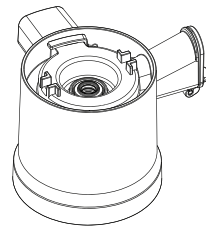

Fig 12c
- The big flat side of the seal ring should be on the inside, while the small and ribbed side should be on the outside of the juicing bowl (Fig 12c).